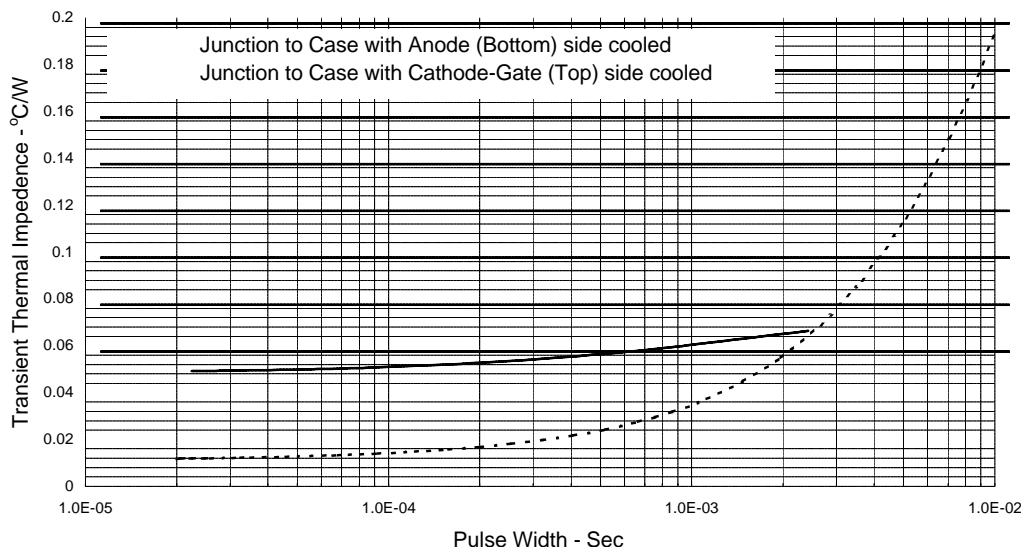

Figure 7. Transient Thermal Impedance Response
- Case Exterior Assumed to be 0.002" of 63sn/37pb solder applied directly to Anode. (See Figure 7.)
- Case Exterior Assumed to be 0.002" of 63sn/37pb solder applied directly to cathode bond area of thinPak. (See Figure 7.)
3. Package may be cooled from either top or bottom (See Figures 7 & A1 Application Notes.)